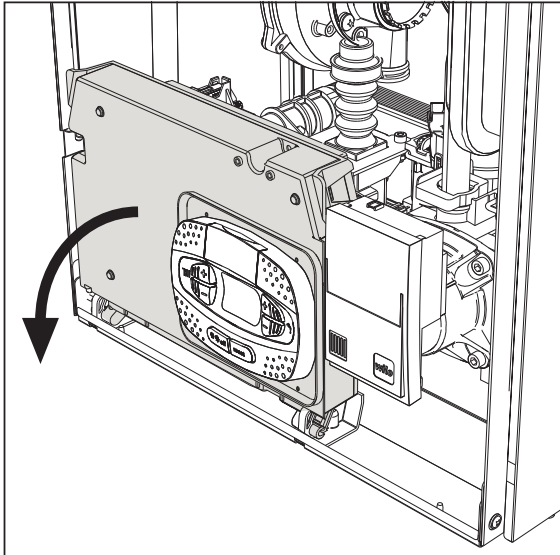
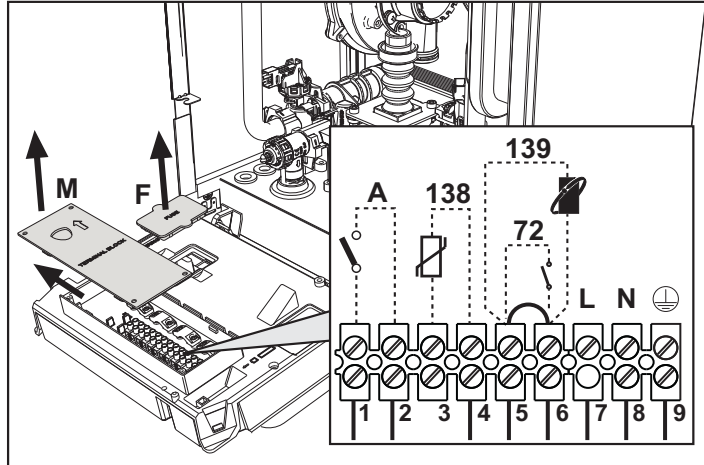

fig. 19
fig. 20
Remove the front panel (*** 'Opening the front panel' on page 185 ***) to access the terminal block (M) and fuse (F) by proceeding as follows (fig. 19 and fig. 20). **The terminals indicated in fig. 20 must be with voltage-free contacts (not 230V).** The arrangement of the terminals for the various connections is also given in the wiring diagram in fig. 62.